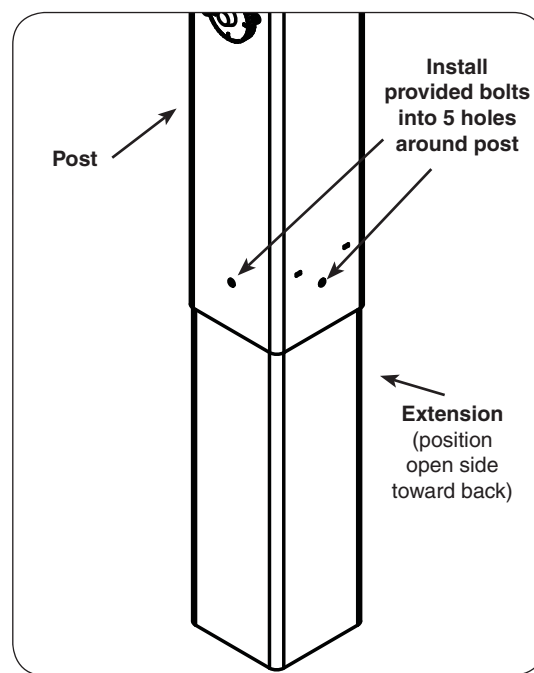

Fig. 10-3 Install extension to post
1. Attach the extension to the bottom of the grill post so that the open portion is toward the back of the grill and the five holes in the extension line up with the five (5) weld-nuts in the post (see Fig. 10-3).